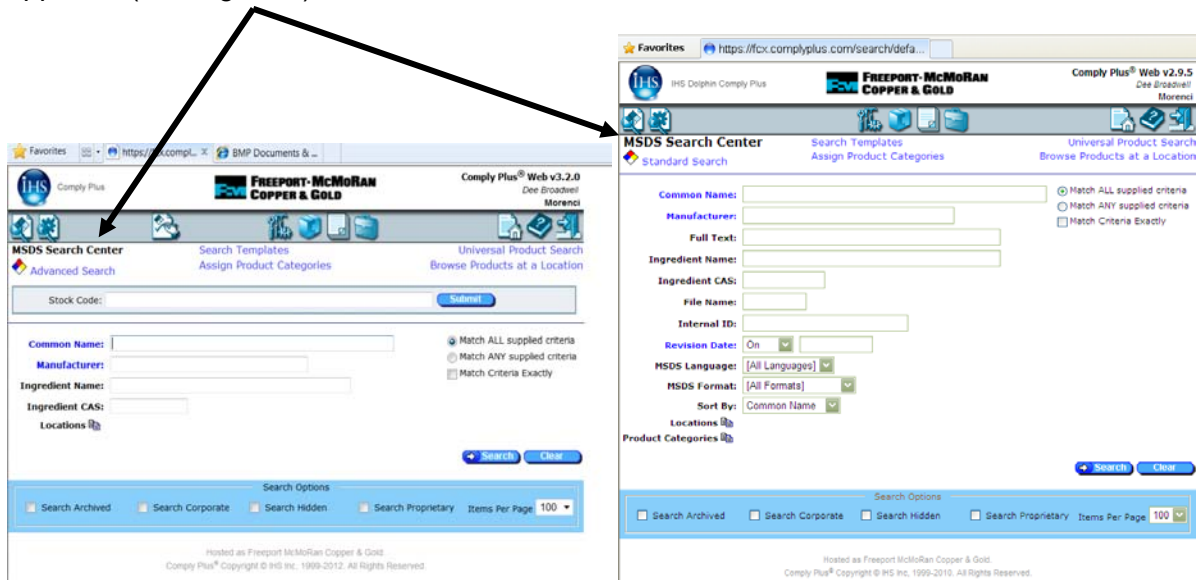

Figure 2
- The Morenci SDS Search Center page (<https://fcx.complyplus.com/search/default.asp>) appears. (see Figure 2)
- You are now ready to enter text into the fields on the screen. For an expanded list of search fields, click on Advanced Search in the menu bar (see Figure 2). Click Search button to activate your search.